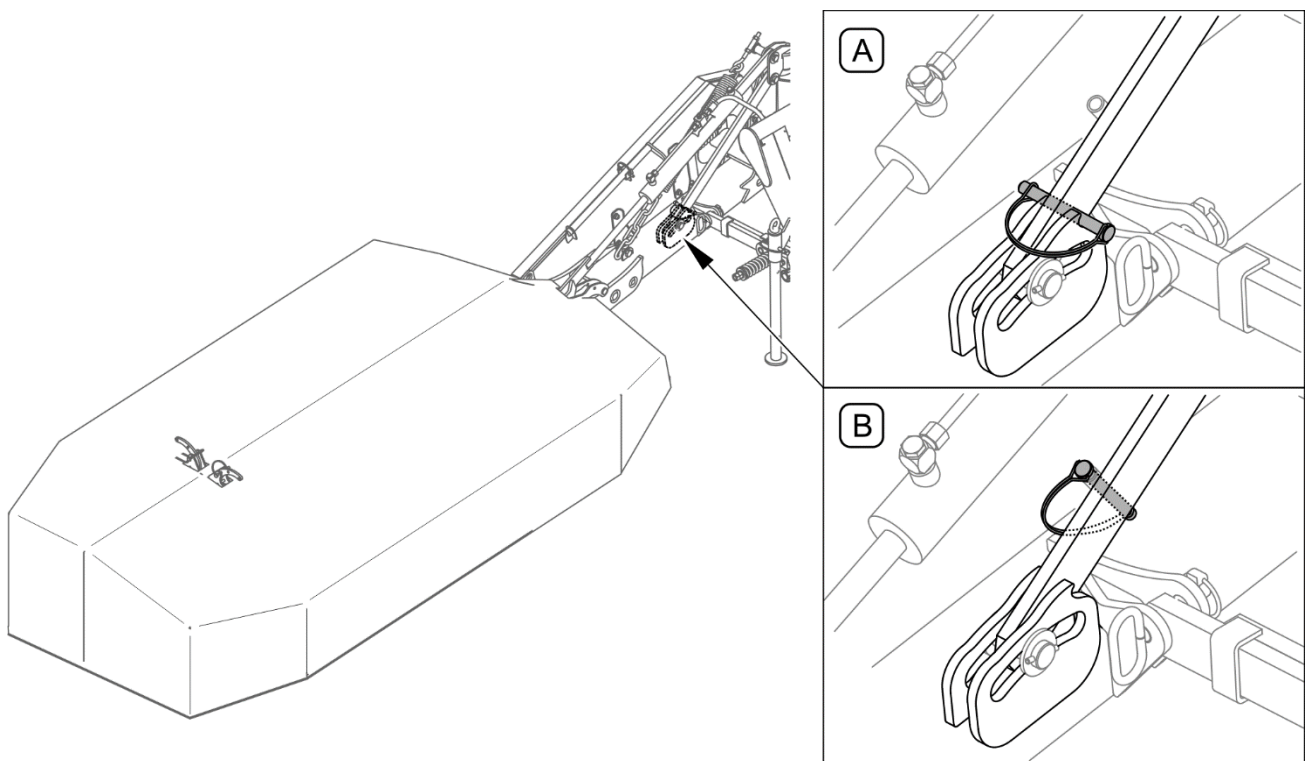

FIGURE 4.9 Unlocking of ground surface tracking
If ground surface tracking has been locked (A) (e.g. mower in parking position, disconnected from carrying vehicle), unlock mower lifting arm (B), prior to operation of mower, by removing cotter pin from hole in bar and install it in sleeve (FIGURE 4.9).